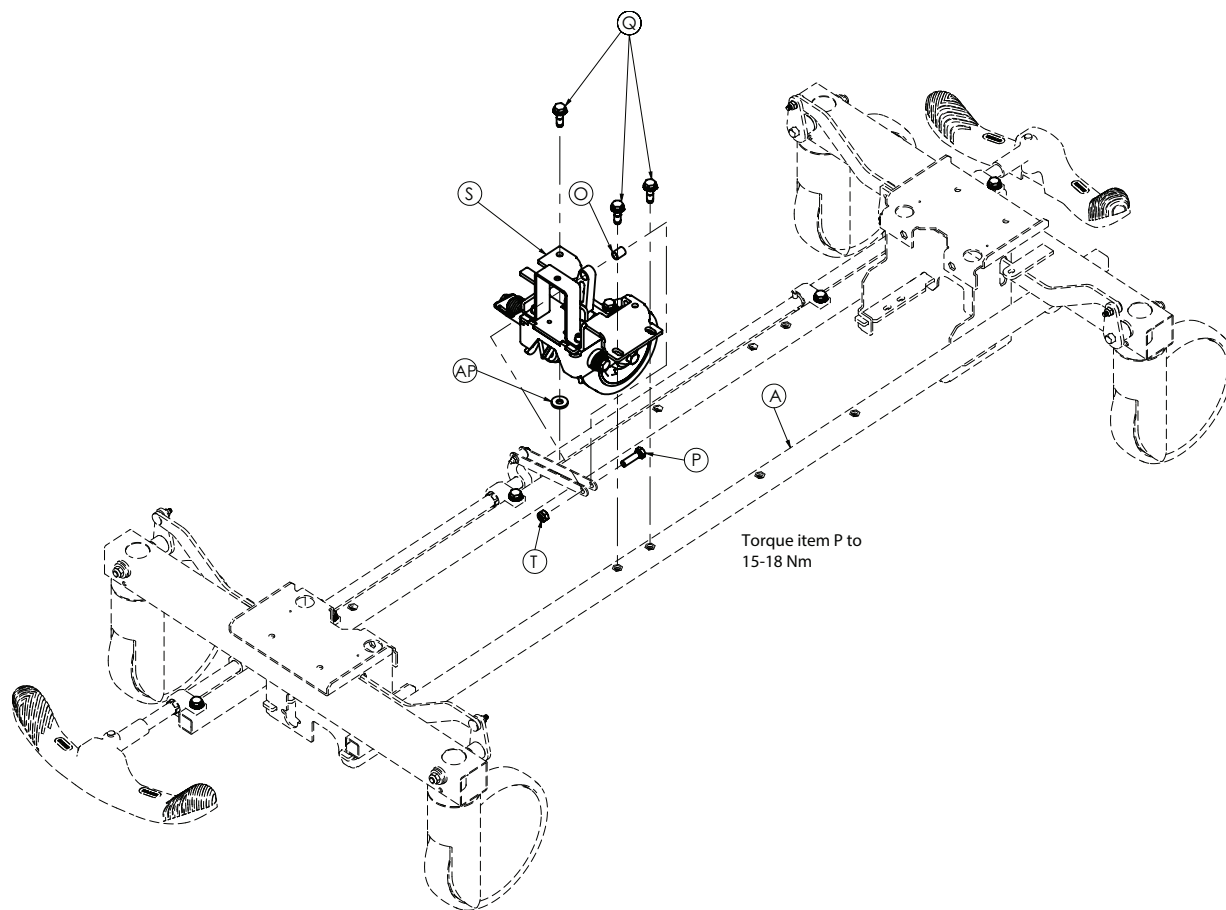

Figure 9 – Fifth wheel assembly replacement
- Use a 13 mm wrench, 13 mm socket wrench, and 3/8" drive ratchet to remove and save the hex head screw (P), hex nut (T), and cam bearing (O) that secure the fifth wheel drive link assembly to the brake rod assembly (Figure 9).
3. Use a 13 mm socket wrench and 3/8" drive ratchet to remove and save the three hex head bolts (Q) and washer (AP) that secure the fifth wheel assembly (S) to the base frame Figure 9.